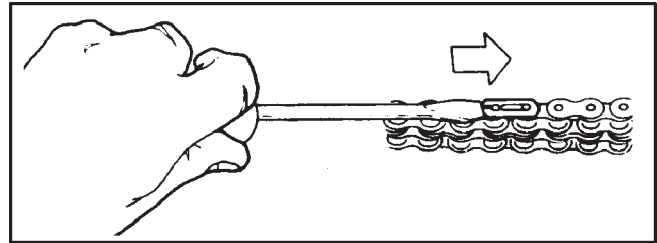

Figure 7-9. Removal of the spring clip.
5. Remove the spring clip from the connecting link as shown in Figure 7-9. Remove the outside plate and tap out the connecting link. The inside plates will be released when the connecting link is removed (Figure 7-9).